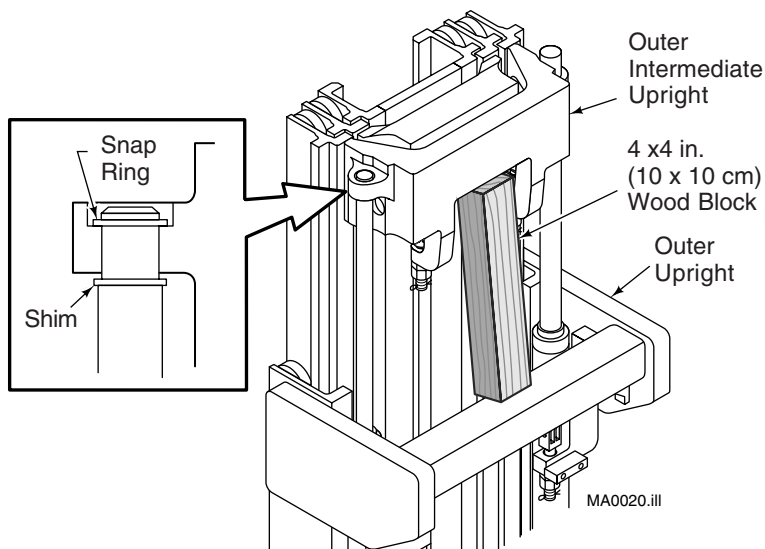

Figure 8. Extending Upright.
- 2 Place a 20 in. (50 cm) long, 4 X 4 in. (10 X 10 cm) wood block between the outer intermediate and outer upright crossmembers. See Figure 8. Lower the mast onto the block.
- 3 Remove the snap ring from the left hand cylinder rod. Open the truck valve to allow the cylinder rod to retract. Tap the cylinder rod down past the crossmember. Install or remove shim(s) on the cylinder rod below the inner upright crossmember. See Figure 8. Shims are listed below.